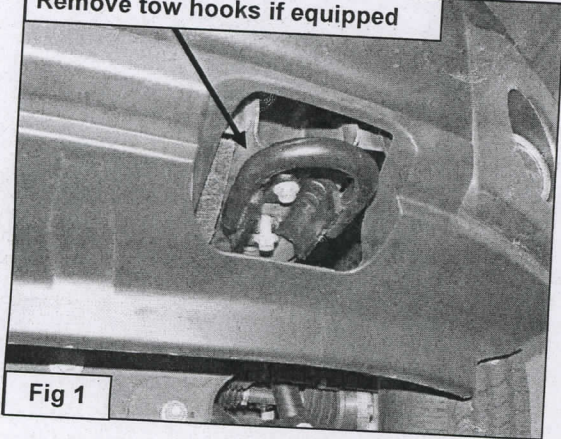

Fig 1
1. Determine if the vehicle is equipped with tow hooks, **(Figure 1)**.